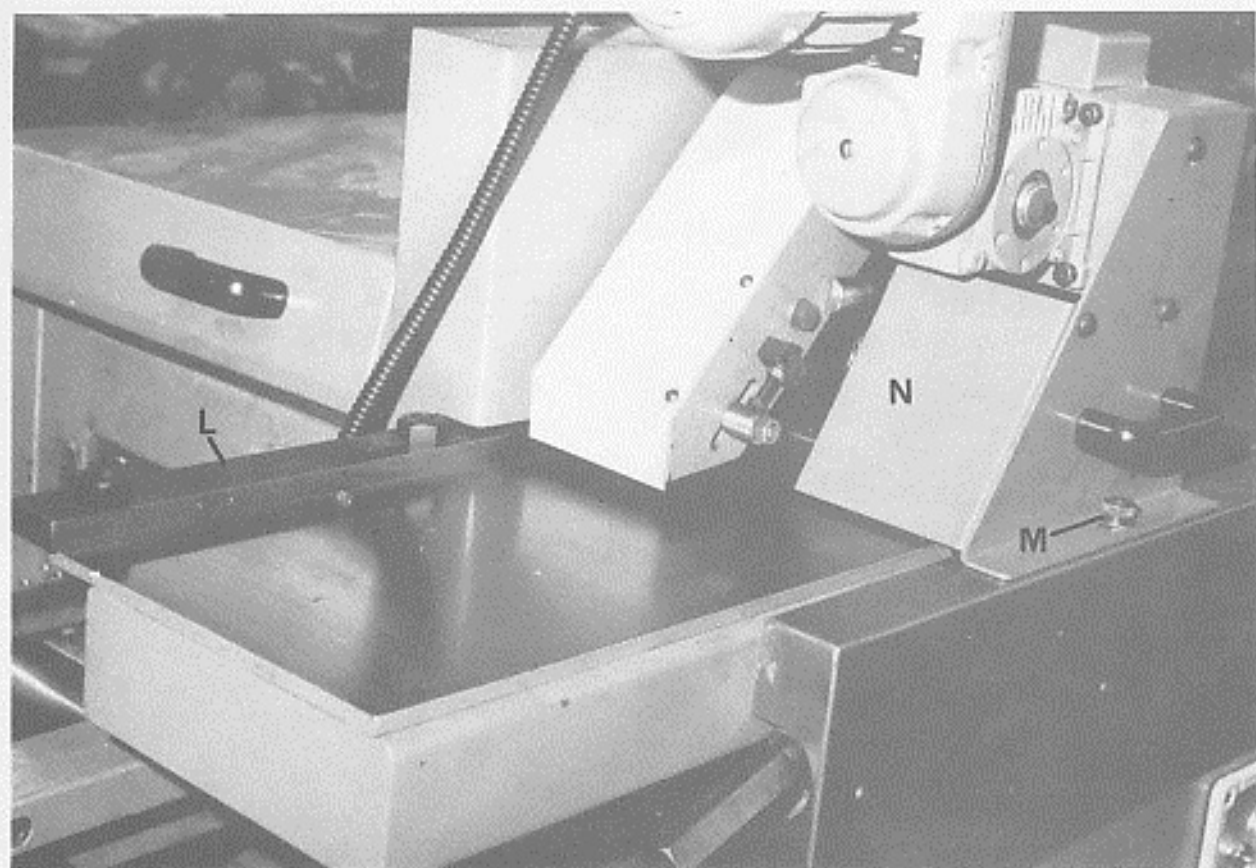

Fig 16
Outfeed planing fence "L" FIG.16 is preset before despatch at our works and should not require further adjustment. It is however, important that the cutting circle of planing side cutterblock is always kept in line with outfeed planing fence.
- 2) Remove locking knob "M" FIG.16 and lift power feed unit "N"